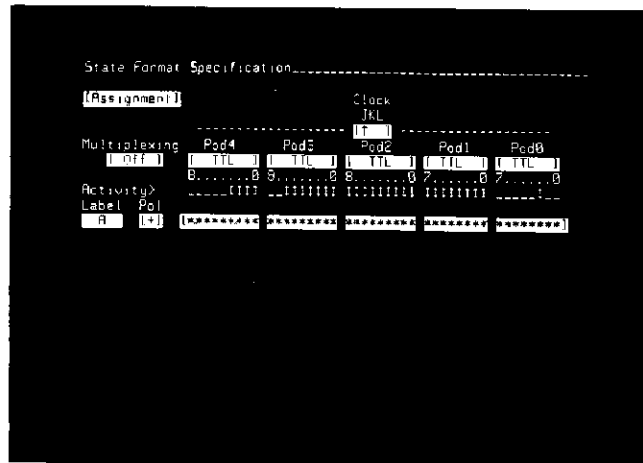

Figure 3-4. Default Format Specification
- 1 Press the FORMAT key. This selects the Format Specification menu. In this menu, you select the arrangement for presenting captured data so that the information will be easy to read and interpret. See figure 3-4